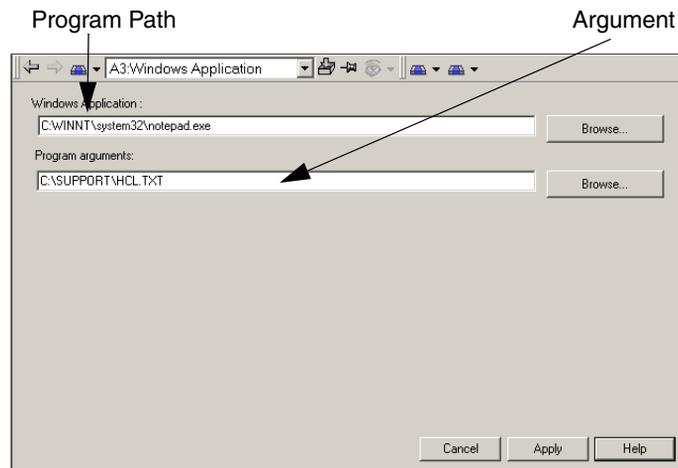

Figure 302. The Windows Application Aspect Dialog Box
2. Open the Windows Application aspect and its Config View. See Figure 302.
4. If the application takes arguments, enter these in the **Program Arguments** field (see Figure 302).